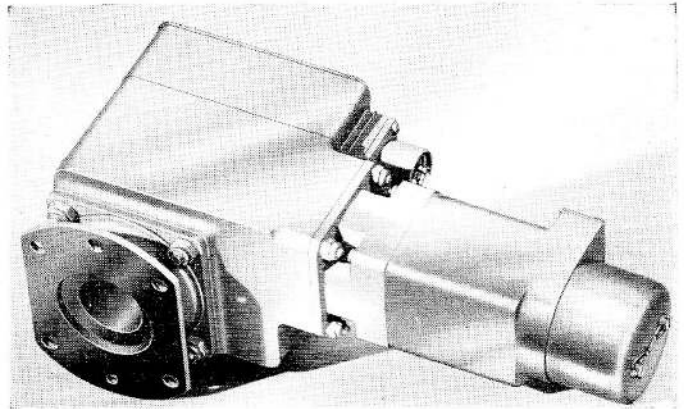

Fig. 1. Actuator, Type 203
1. The rotary actuator, Type 203 (*fig. 1*) operates an air mixing valve in both directions of rotation up to an emergency torque at the valve of 110 lb. in.
**Housing and covers (fig. 1 and 2)**